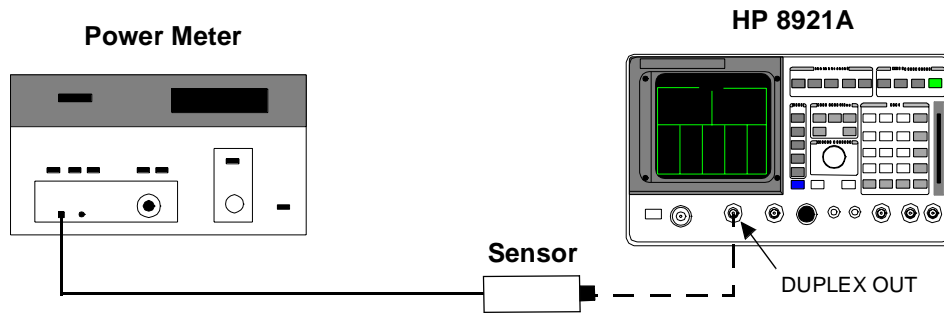

Figure 8 Receiver Path Loss - POWERREF Measurement
1. See figure 8. Zero the power meter and set the power meter calibration factor if necessary. Connect the power meter sensor to the Test Set DUPLEX OUT.